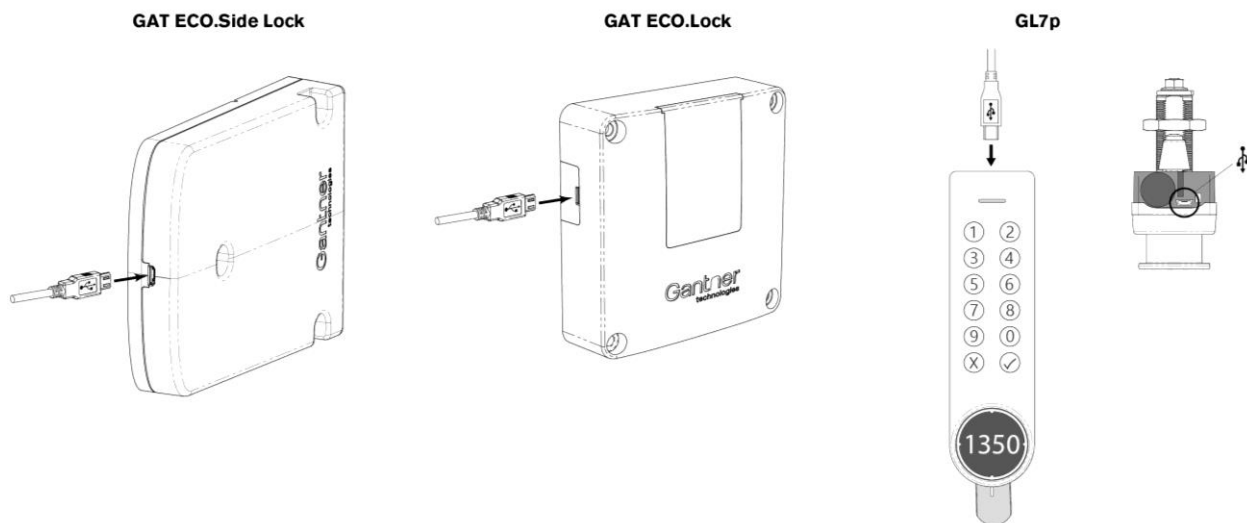

Figure 2.1 – USB connection of the locker locks
- ▶ Connect the lock to the PC via USB (see Figure 2.1).